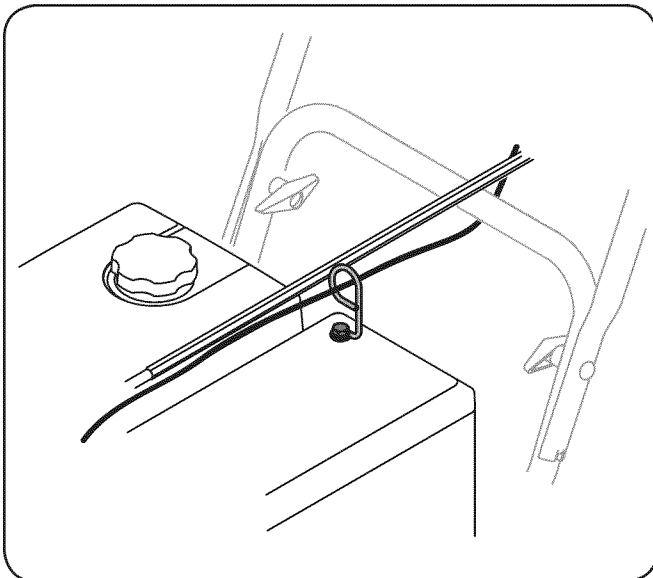

Figure 3-9
- Check that all cables are properly routed through the cable guide on top of the engine. See Fig. 3-9.